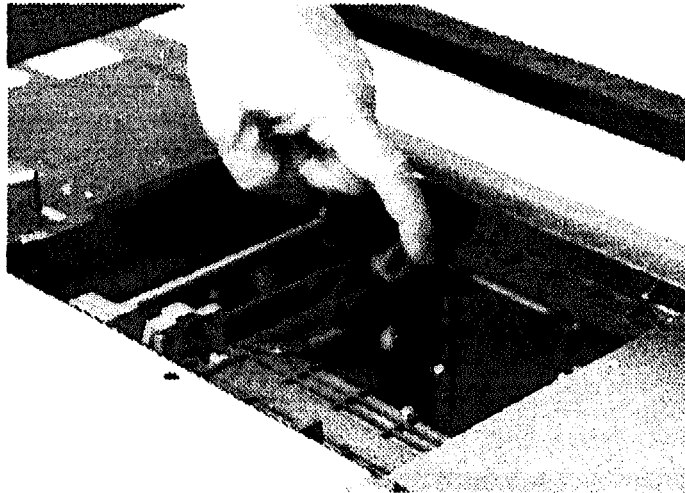

Figure 8-5. Mailslot Actuator Arm
The aluminum door opener must be lowered to re-install the front panel. Manually pull the mailslot actuator arm all the way back before placing the front panel into position. See Figure 8-4 (1) and Figure 8-5 for the location and movement of the actuator arm.